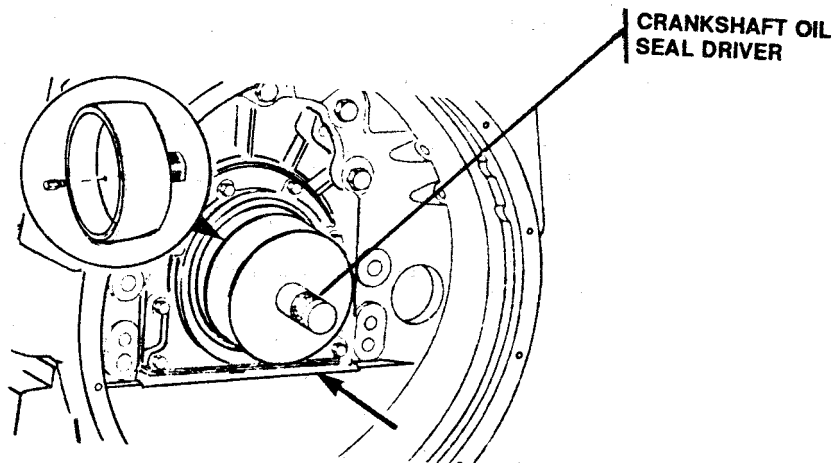

FIGURE 3-74. *Seal Driver.*
- (1) Clean the gasket surface of the cylinder block and the rear cover (2).
- (2) Use a crocus cloth to remove any rust or other deposits from the crankshaft flange.
- (3) Use a clean cloth to clean the crankshaft flange.
- (4) Install a new gasket (1) on the cylinder block.
- (5) Install the rear cover (2) and the capscrews (3). Tighten the capscrews just enough to hold the rear cover in position.
- (6) Remove the pins from the crankshaft oil seal driver, and use the driver to align the rear cover with the crankshaft (Figure 3-74).
- (7) Install the seal driver on the crankshaft flange and in the bore of the rear cover (Figure 3-74).